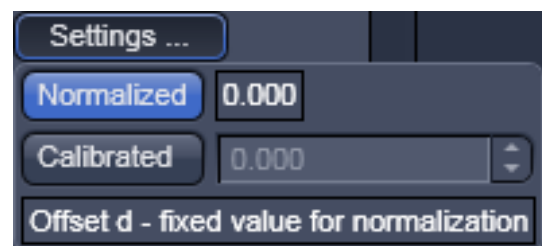

Fig. 251 Offset Settings panel
- You can set the offset (Fig. 251) to 0 by pressing the **Normalized** button.